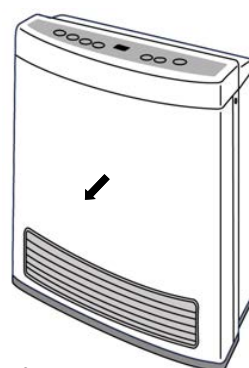

Figure 1
- FC510:** Remove 2 screws near top and 2 screws near bottom of unit and pull front panel off towards you. (**Figure 1**)